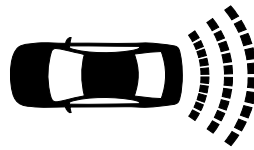

Fig. 4-109
1. The warning mode applied by this reverse radar system is instrument cluster display screen LCD, as shown in Fig. 4-109.